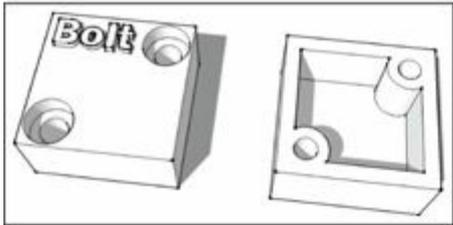

FIGURE 9-22: Nothing says strength like an exposed bolt.
- » If you're using bolts or screws and don't want to include a matching nut, a trick is to slightly undersize the holes. The threads of the bolt will cut into the excess plastic and hold it firmly in place, as shown in Figure 9-22.